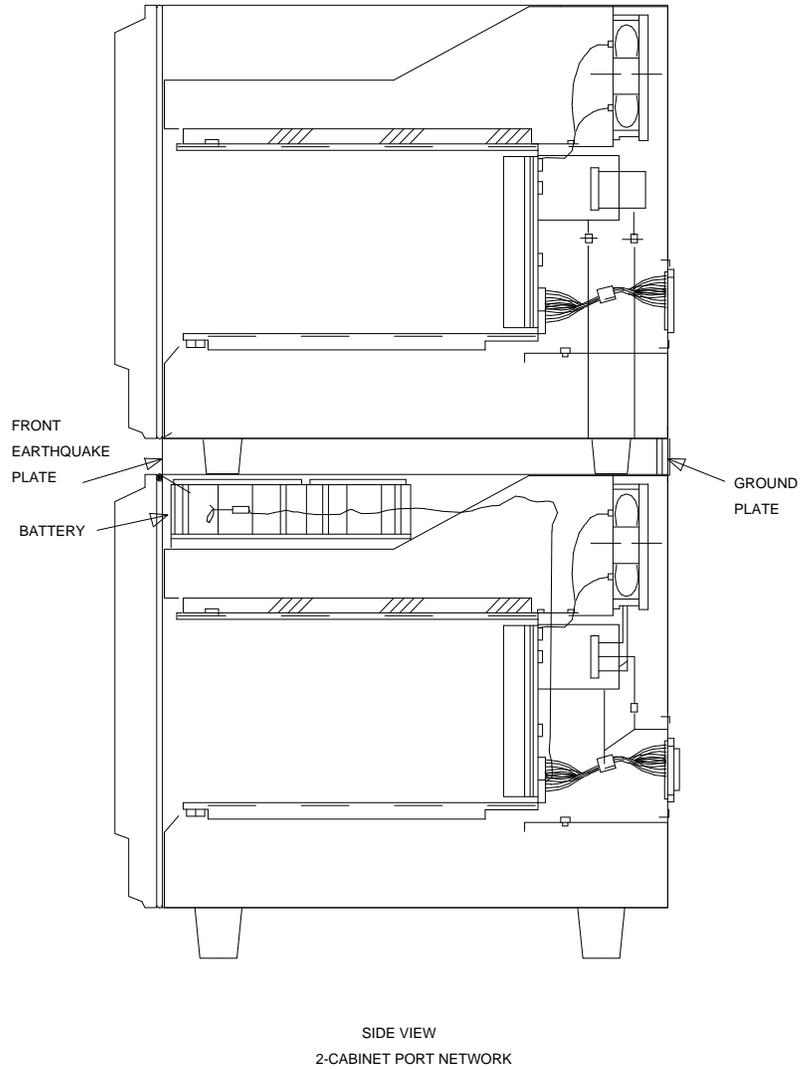

Figure 2-14. Locations of Ground Plate, Earthquake Front Plate, and Battery
6. At the front of the cabinet, line up the earthquake front plate with the holes at the top and bottom of the cabinet (see Figure 2-14). Install the eight screws, but do not tighten.